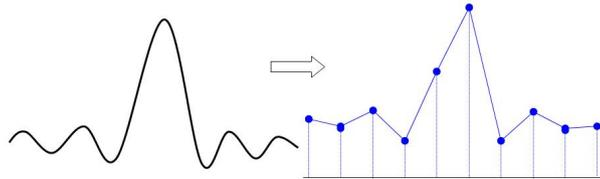

Figure 10-1
(2) The influence of low sampling rate
- ① Waveform Distortion: Due to low sampling rate, the details of the waveform might be missing, the sampling waveform might be different than the actual signal. As shown in Figure 10-1.